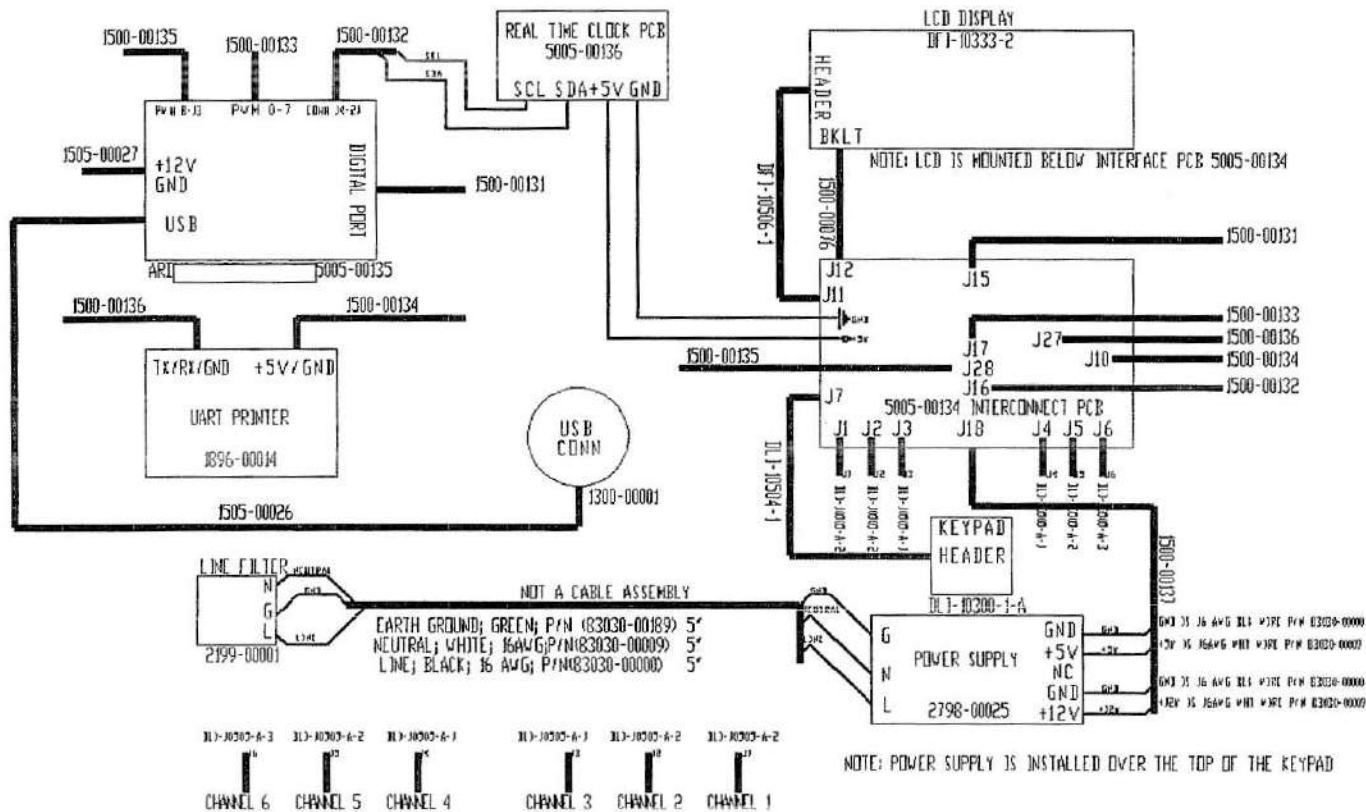

Figure 2-1. System Block Diagram
A portable scale system, applicable to the weighing of aircraft, has been developed around the concept presented in figure 2-1. The system consists of an instrument module that accepts data from remote digital load cells and presents weight measurements in units of pounds or kilograms. The instrument module accepts up to six (6) load cells simultaneously. The data from the load cells is independently and exclusively displayed. The sum of the individual weights is displayed as total.